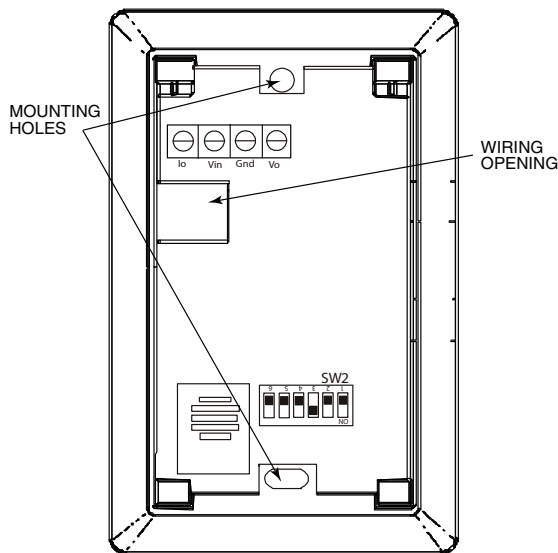

Fig. 72 — Space Relative Humidity Sensor Installation
If the sensor is installed directly on a wall service, install the humidity sensor using 2 screws and 2 hollow wall anchors (field supplied). Do not over-tighten screws. See Fig. 72.
1. At the sensor, remove 4 inches of the jacket from the cable. Strip 1/4-in. of insulation from each conductor. Route the cable through the wire clearance opening in the center of the sensor. See Fig. 72.